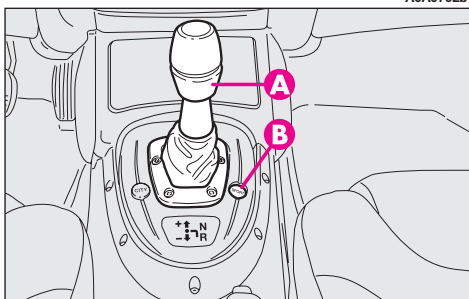

fig. 124
- 2**) sport: (to be activated by button **B**-fig. 124): for sporty driving.
Sport operating mode is selected by pressing button **SPORT** (**B**-fig. 124) set on the gearshift lever; when selecting this mode, the display will show **SPORT**.
- the control lever on the centre console (**A-fig. 124**);